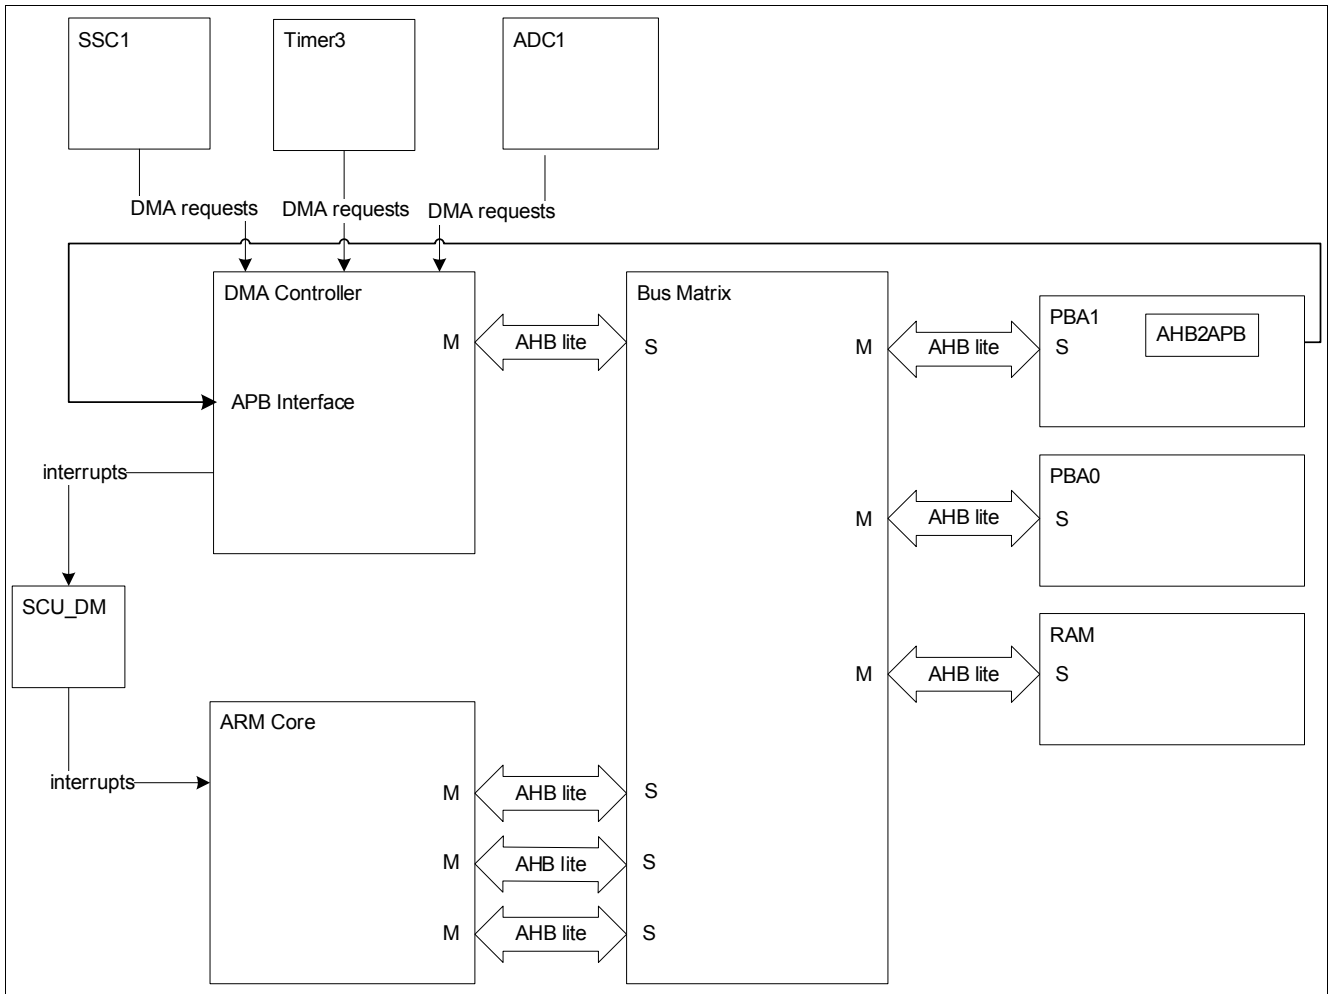

Figure 13 DMA Controller Top Level Block Diagram
**Figure 13** shows the Top Level Block Diagram of the TLE9879QXW40.